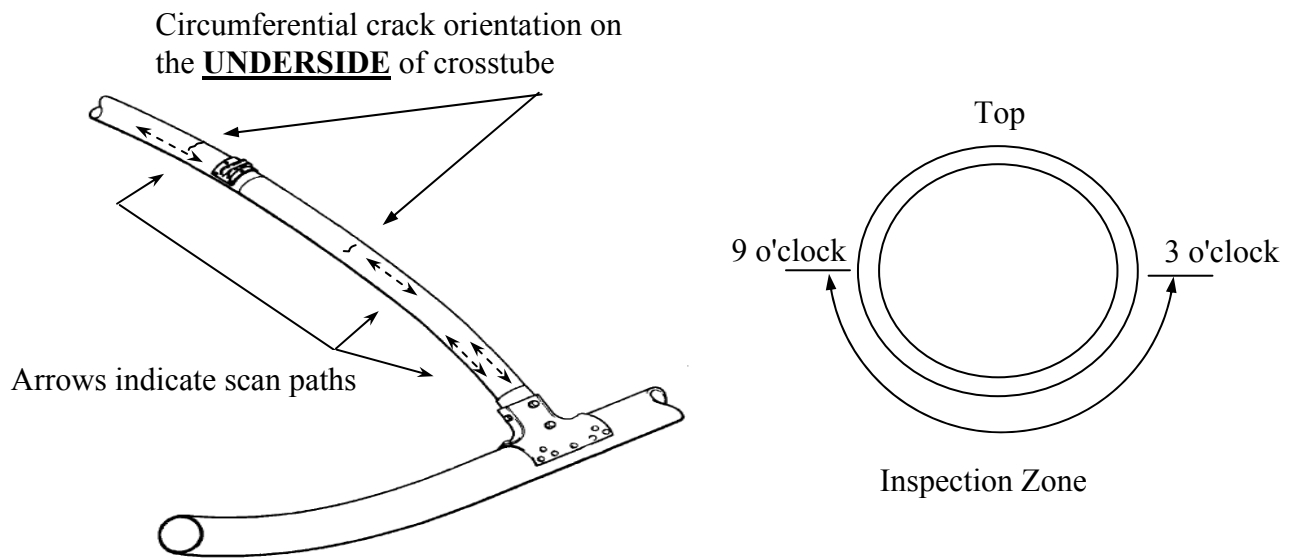

Figure 3. Probe scan paths and inspection zone
- b. Inspect the crosstube's underside from the 3 to 9 o'clock position. Use the scan path as indicated in Figure 3 on the underside of the tube only. Scan paths should slightly overlap to ensure 100% inspection.